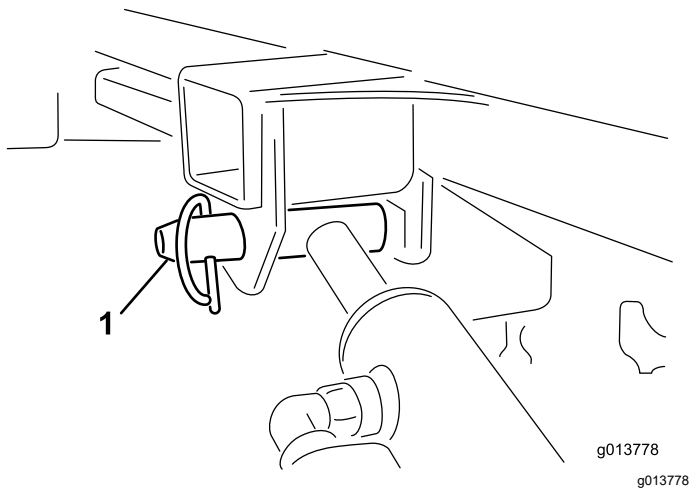

Figure 54
11. With 1 hand, hold the lift cylinder. With the other hand, remove the lift cylinder's locking pin (Figure 54).